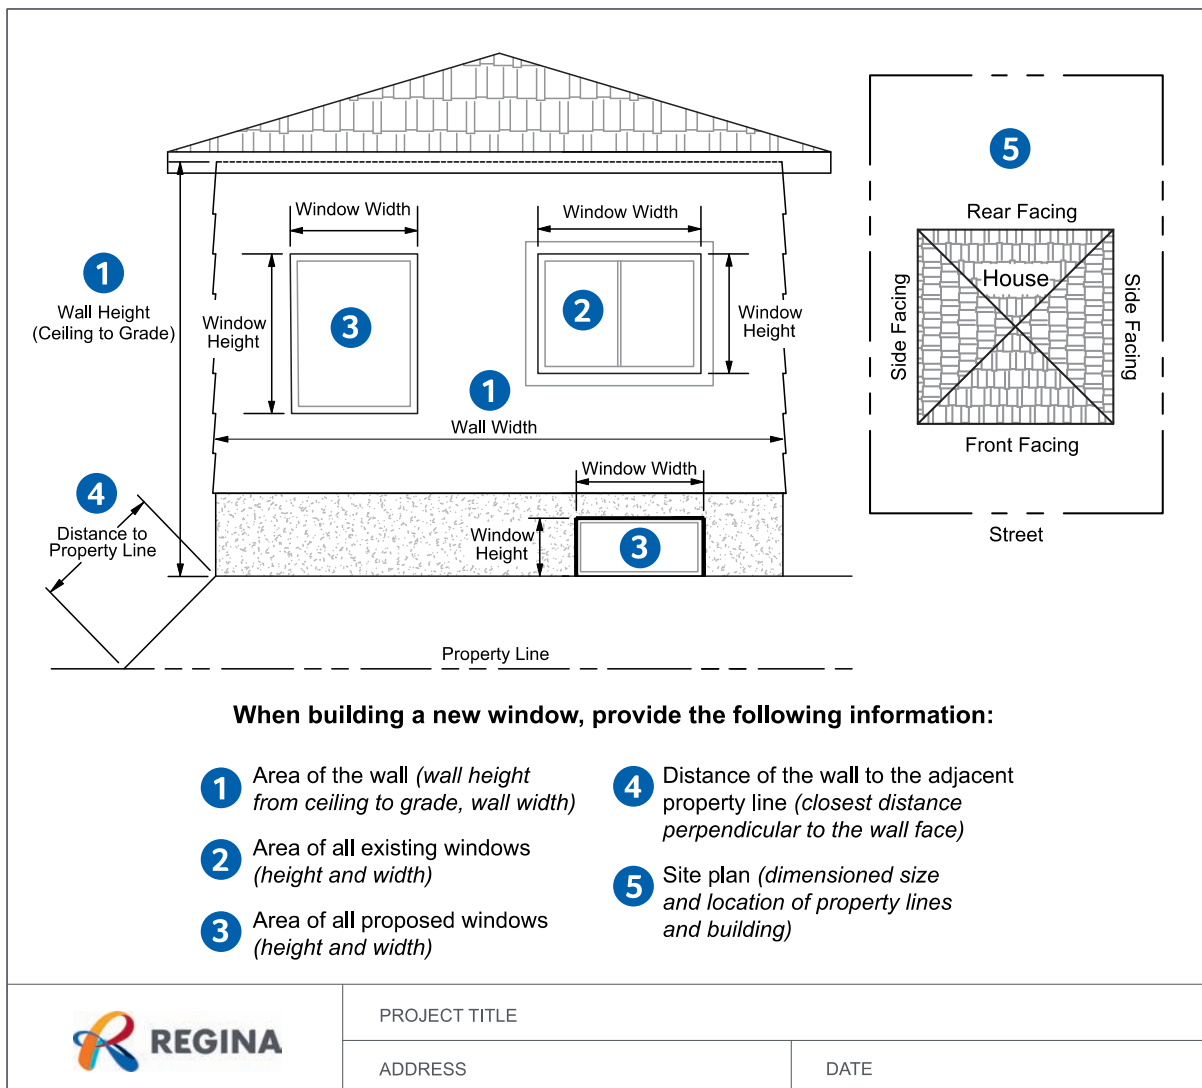

Figure 2 - Sample Window Elevation
- Location and size of proposed and existing windows on same wall face (see Figure 2)
- Length and height of wall (measured from grade to ceiling height) (see Figure 2, Item 1)
- Distance to property line (measured perpendicular to wall face) (see Figure 2, Item 4)
- An engineered design will be required for new windows openings or enlarged openings in the foundation as per Bylaw No. 2003-7, Subsection 2.5 (see Figure 2, Item 3)